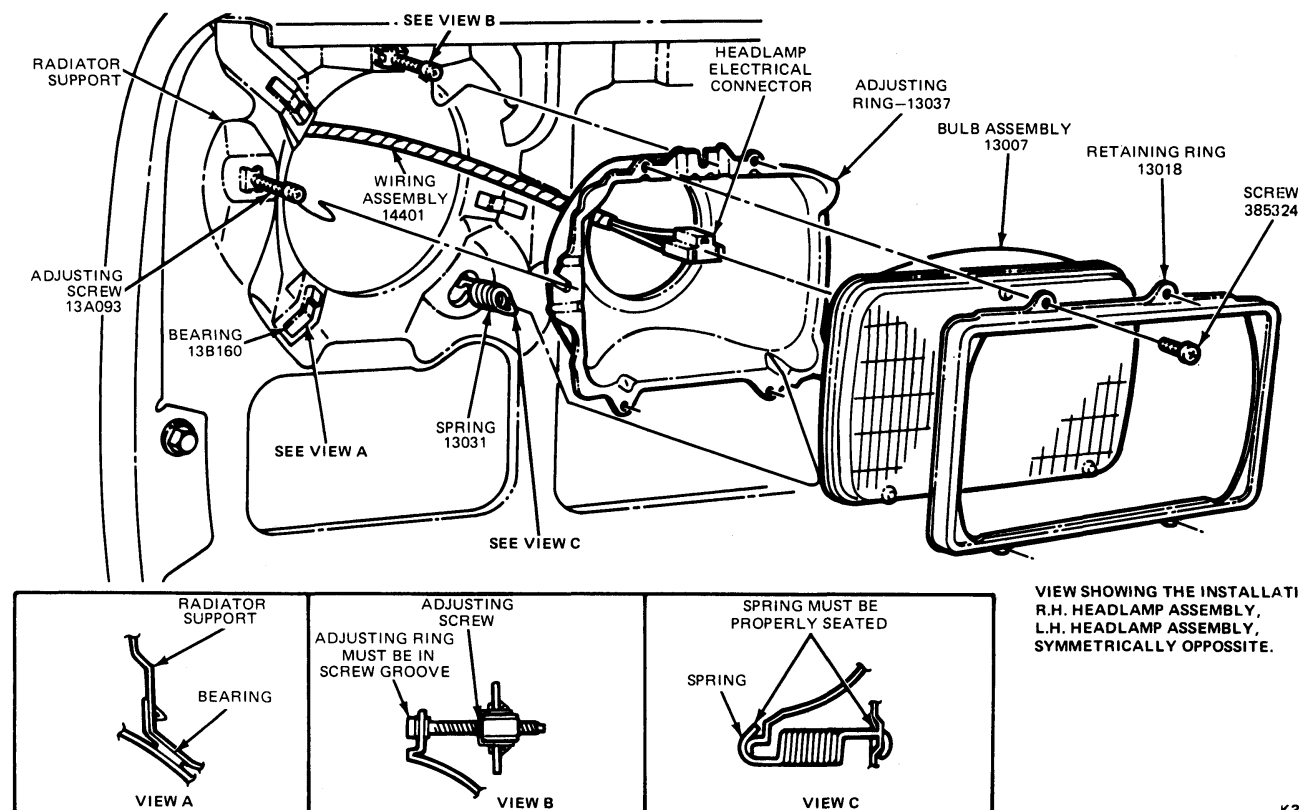

FIG. 4 Square Headlight—E-100—E-350 Shown
2. Remove the headlight retaining ring screws (Fig. 4), and remove the retaining ring. Do not disturb the adjusting screw settings.
5. Install the headlight retaining ring (Fig. 4).